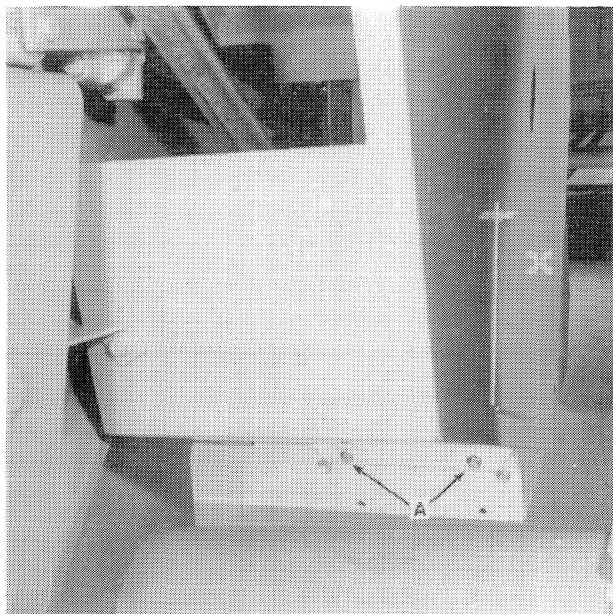

FIGURE 13-21
6. Install two 5/16" x 1/2" flange bolts at A, Figure 13-21.